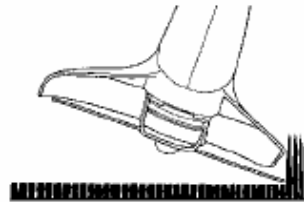

Fig. 16
2. **CLOSER TRIMMING** (Fig. 16). Position trimmer straight ahead with a slight tilt so bottom of string head is above ground level and string contact occurs at proper cutting point. Always cut away from operator. Do not pull trimmer in toward operator.